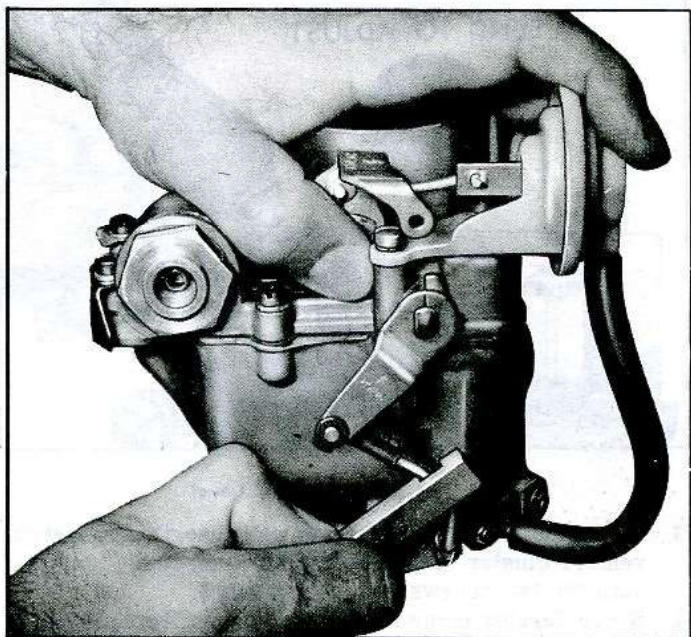

Fig. 13—Adjusting Pump Rod
14. **Adjust Pump Rod as follows (Fig. 13):**